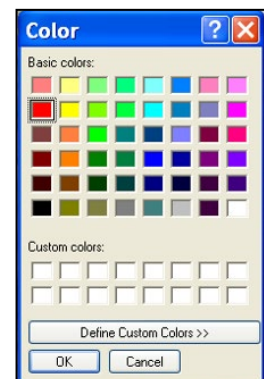

Figure 4 - Color Selection Box
- To change the color of the shape’s outline, click on the **Pen Icon**. This will open the Color Selection Box (see Figure 4). Select the desired color and click **OK**.